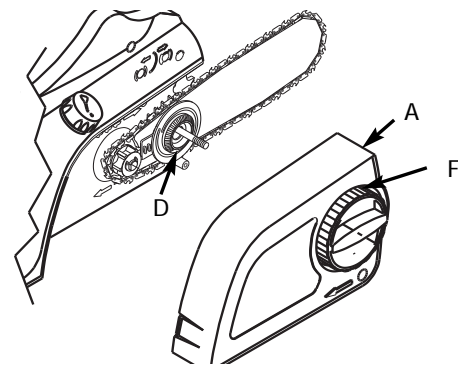

Fig. 21
2. To fit the chain links into the groove on the guide bar, turn the tension plate (D) counter-clockwise to the end. Install the chain and bar on the power unit, turn the tension plate (D) clockwise and then put the side cover (A) on (Fig. 21).
3. Turn the knob clockwise, adjust the chain tension ring (F) and then tighten the knob. See Saw Chain Tension Adjustment P14.